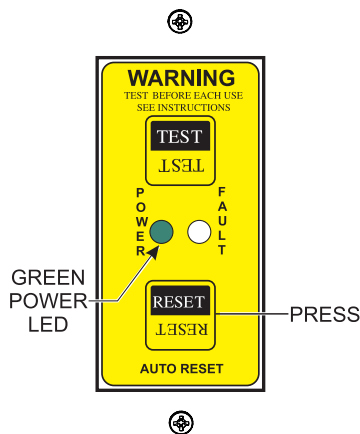

Figure 56. GFCI Sensing Module (Green LED ON Reset)
9. To restore power, press the **RESET** button on the GFCI sensing module (Figure 56) and verify that the red fault LED turns **OFF** and the green power LED should turn **ON**.